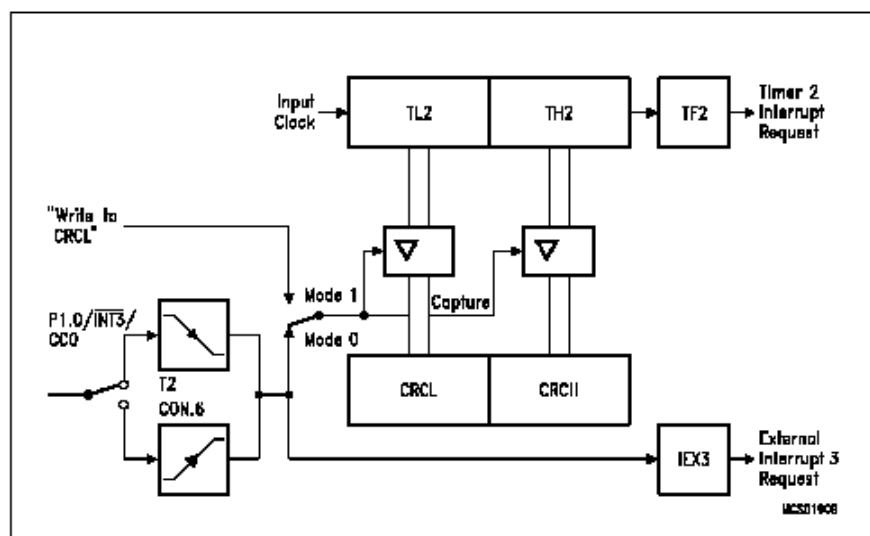
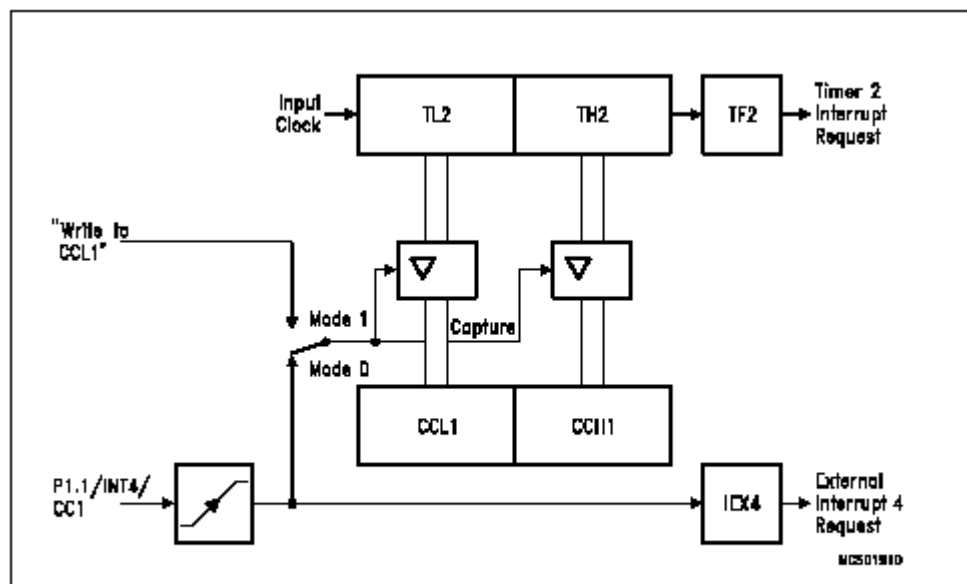

Figure 7-41
Figure 7-42
**Figures 7-41 and 7-42** show functional diagrams of the capture function of timer 2. **Figure 7-41** illustrates the operation of the CRC register, while **figure 7-42** shows the operation of the compare/capture registers 1 to 3.